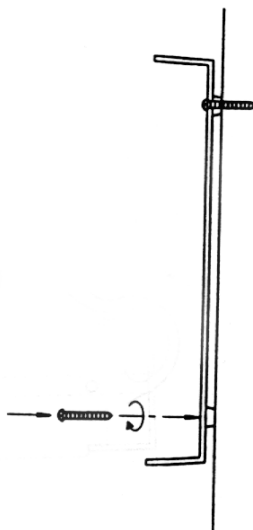

Figure 2-5: Securing the KSU to the Wall Mount Template
- Using the other two provided screws, secure the KSU to the wall mount template by screwing the lower two openings located in the KSU base. (Refer to *Figure 2-5: Securing the KSU to the Wall Mount Template, Pg 48.*)